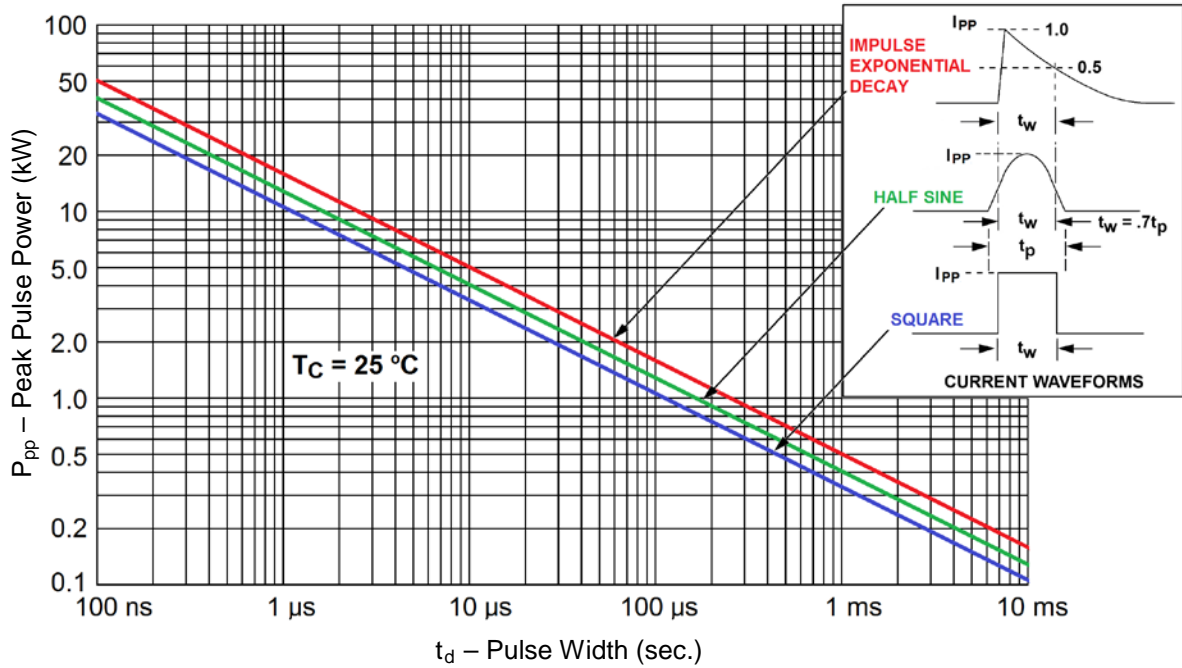

FIGURE 1
2. With impulse repetition rate (duty factor) of 0.01 % or less (also Figure 1 and 4).